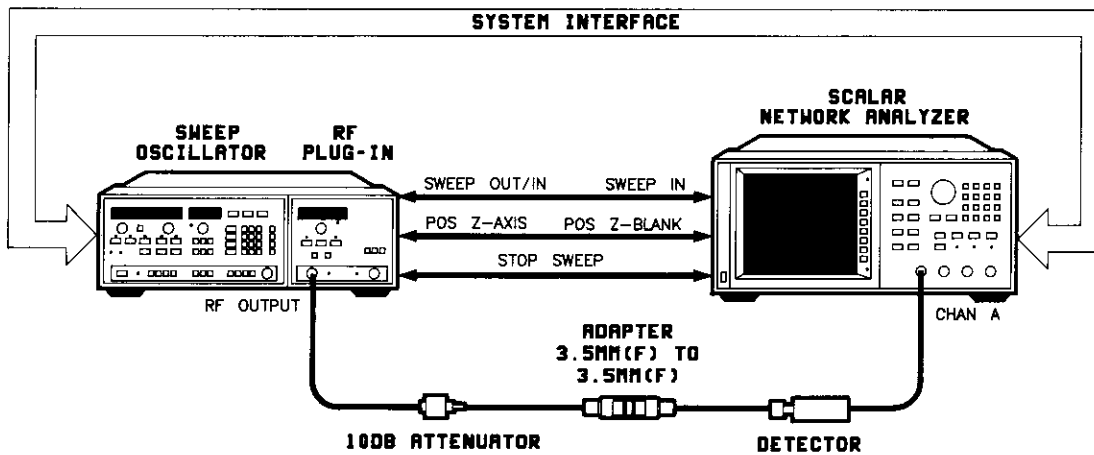

Figure 5-34. Internal Levelled Flatness Adjustment Test Setup
1. Connect the equipment as shown in Figure 5-34. Allow 30 minutes for warm-up.